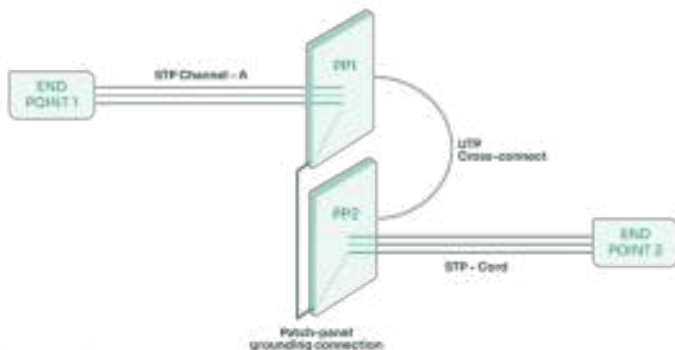

Fig 1 - DC continuity present but shielding compromised
Commonly, shield integrity is verified by simple DC continuity measurements. However, there are situations where shield integrity might be compromised despite having end-to-end DC connection of the shield conductor. Even when the channel has one or more unshielded components, there may be an alternate DC conduction path, for example, through grounding of the patch-panels (Fig. 1). When such alternate conduction path is present for shield, simple continuity measurement may give a false PASS. The good news is, even in such cases, testers like TestPro and NSA can detect shield discontinuities through AC (RF) measurements. Further, these tools pin-point the location where shield discontinuity is detected, which is extremely useful information while troubleshooting the shield issues.